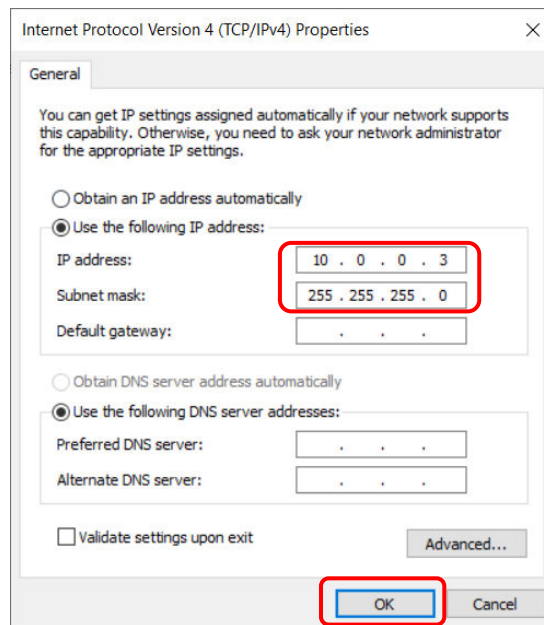

Figure 21: Network Configuration – IP address & Subnet mask
- The IP address you assign to your computer needs to be in the same format as the HEAT VIEW controller(s). For example, if the HEAT VIEW controller has an IP address of 10.0.0.20, you need to set your computers IP address to something different but similar such as 10.0.0.3; as seen in Figure 21 below. **The preferred IP address for your computer is 10.0.0.3.**
The 'Subnet Mask' will always be 255.255.255.0 unless using a custom network configuration. Once you've entered the settings, please click 'OK' – as is highlighted in Figure 21 below – on all windows that have an 'OK' button. Clicking 'Cancel' will cause any changes you made to not take effect.